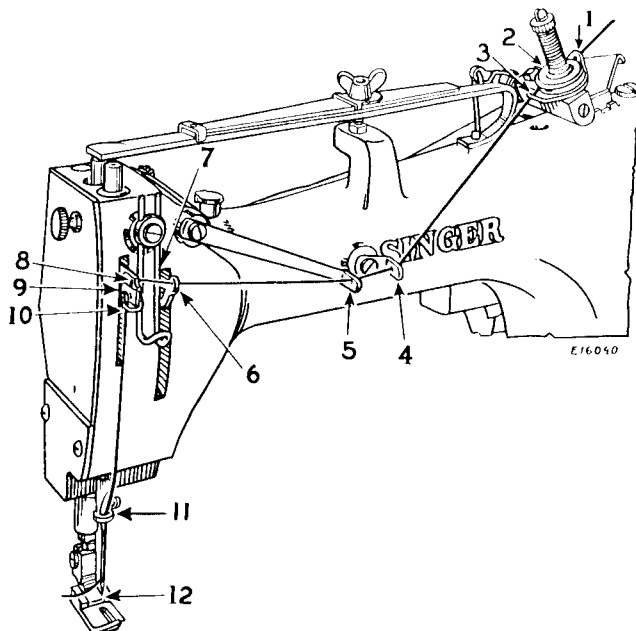

Fig. 5. Upper Threading
Pass the thread from the unwinder through hole (1, Fig. 5) in the tension thread guide and between tension discs (2) at the top of the
The needle thread take-up (8, Fig. 5) is usually set so that the bottom of the take-up is flush with the bottom of its holder.